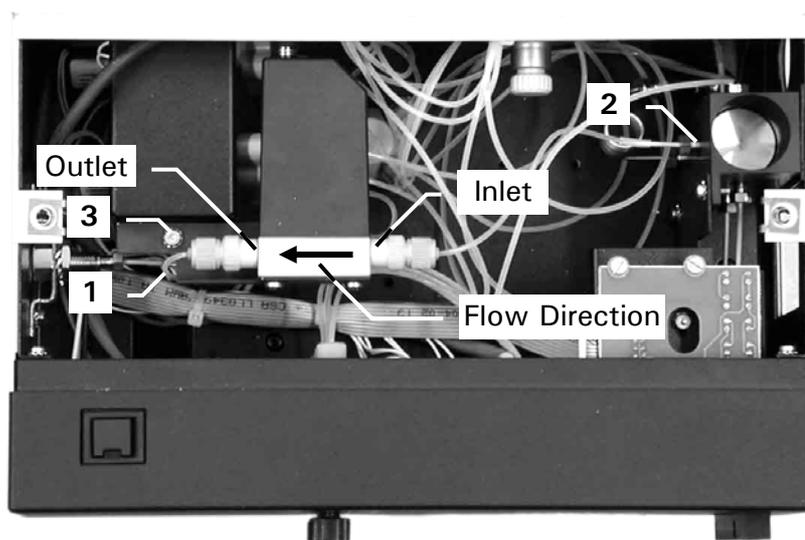

FIGURE A-19. Connecting Tubing of the Flow Sensor
- g) Disconnect the connecting tubing that connects the upper T-Piece (item 2, FIGURE A-19) and the flow sensor inlet. Protect the inlet capillary with a plug that is provided to prevent clogging of the tubing.
- b) Disconnect the connecting tubing that connects the nano/micro flow outlet and the flow sensor outlet (item 1, FIGURE A-19).
- c) Disconnect the connecting tubing that connects the upper T-Piece and the flow sensor inlet (item 2, FIGURE A-19).
- e) Unscrew the mounting bracket and remove the sensor from the fluidic compartment (item 3, FIGURE A-19).
The two internal connections are already pre-installed (item 1 and 2, FIGURE A-19). If the connecting tubing needs to be replaced, follow carefully the instructions provided in this section.